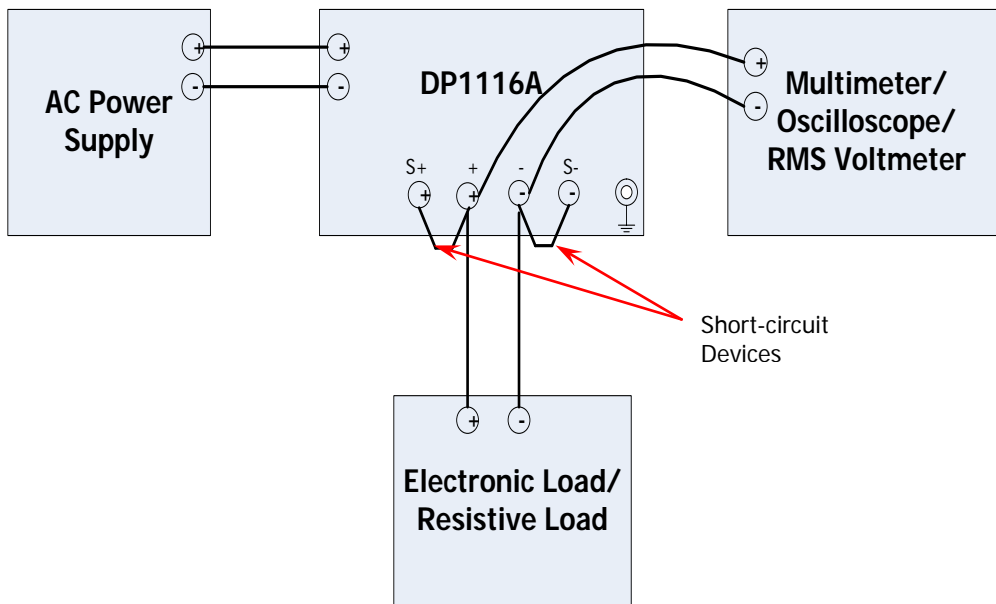

Figure 2-1 Test Connections (CV)
The short-circuit devices in Figure 2-1 are used to short-circuit the (S+) terminal and (+) terminal as well as the (S-) terminal and (-) terminal respectively. Before performing the test, press **Sense** to enable the Sense mode. The performance test measures the specifications under Sense mode (with short-circuit devices).
1. Turn off DP1116A. Connect DP1116A, AC power supply, electronic load and multimeter according to Figure 2-1.
1. Turn off DP1116A. Connect DP1116A, AC power supply, electronic load and multimeter according to Figure 2-1. Set the voltage selector (100, 115, 220 or 230) at the rear panel of the power supply according to your need and make sure that the fuse currently installed matches the input voltage. As the voltage test methods of the four specifications are the same, 220 is taken as an example for illustration.
1. Turn off DP1116A. Connect DP1116A, AC power supply and oscilloscope (connect the positive terminal of the oscilloscope probe to the positive terminal of the output scale of the power supply, connect the ground terminal of the oscilloscope probe to the negative terminal of the output scale of the power supply. Note that you are recommended to use ground spring as ground wire so as to minimize the current coupling area between the probe tip and the ground wire and to minimize the space radiation interference.) according to Figure 2-1.
- Disconnect the oscilloscope and connect the RMS voltmeter according to Figure 2-1. Note that the measurement wires of the voltmeter should be twisted together to minimize the effect of the space radiation noise on the test. Make sure that the power supply is in CV mode. Read and record the V_{rms} measured.
1. Turn off DP1116A. Connect DP1116A, AC power supply, electronic load and oscilloscope according to Figure 2-1. Make sure that the programmable electronic load is in CC mode.